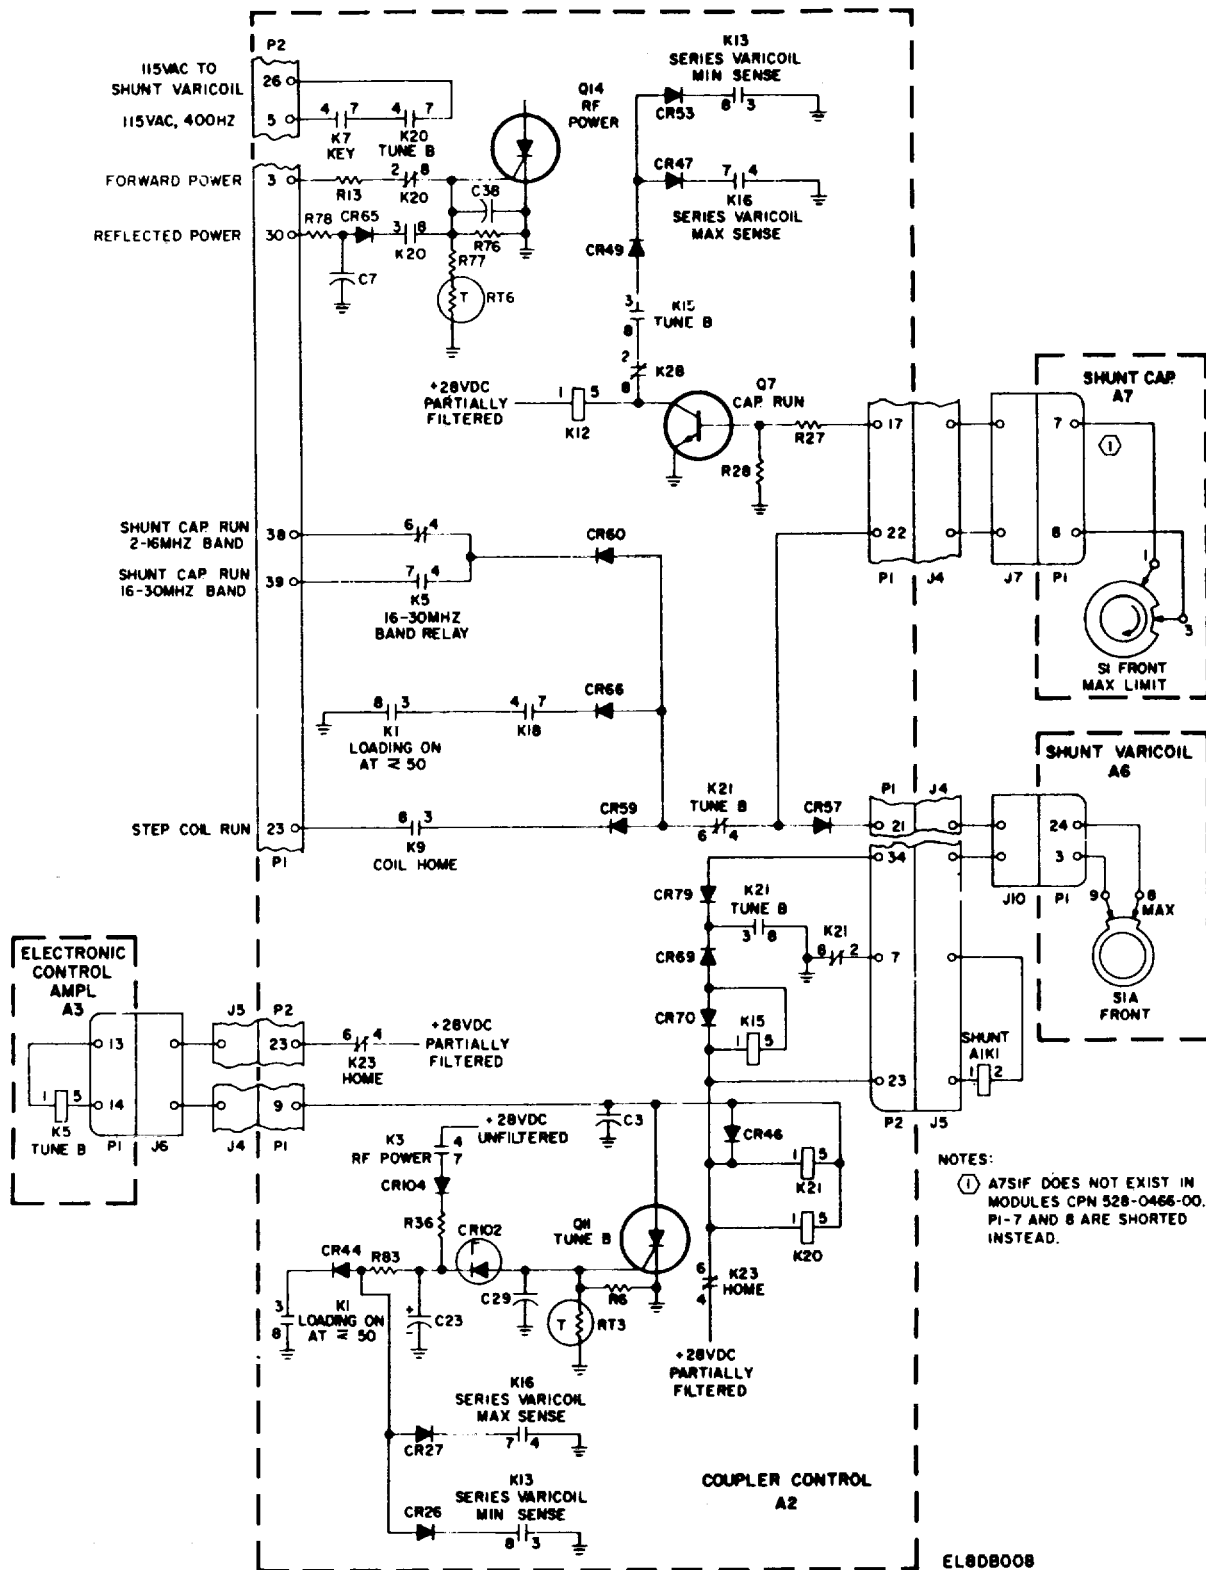

Figure 2-16. Tune B Circuit, Simplified Schematic Diagram.
c. When the antenna circuit has been resonated, the ground (through A2CR64, A2K19-4 and -7, and the varicoil sense circuit (fig. 2-14) is removed from the gate of A2Q11 (fig. 2-16), and the loading circuits or the tune B circuits are actuated.
d. When the resistance is less than 50 ohms, relay contacts A2K1-3 and -8 open to remove the ground from the gate circuit of A2Q11 (fig. 2-16). The antenna coupler circuits advance to the tune B mode of operation.
(fig. 2-16)